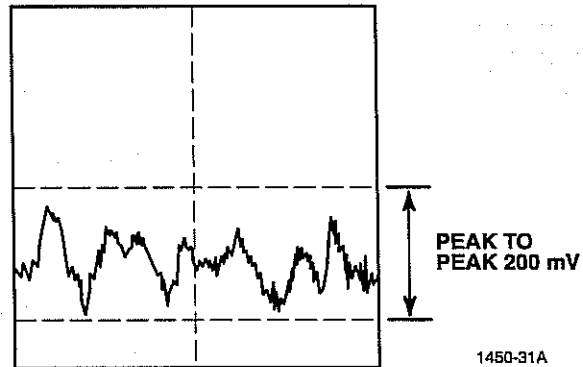

Figure 3-26. Peak-to-Peak 200 mV Waveform.
7. Remove the MAG head test board and confirm that the peak-to-peak value of the noise level is not more than 200 mV. (See Figure 3-26.)